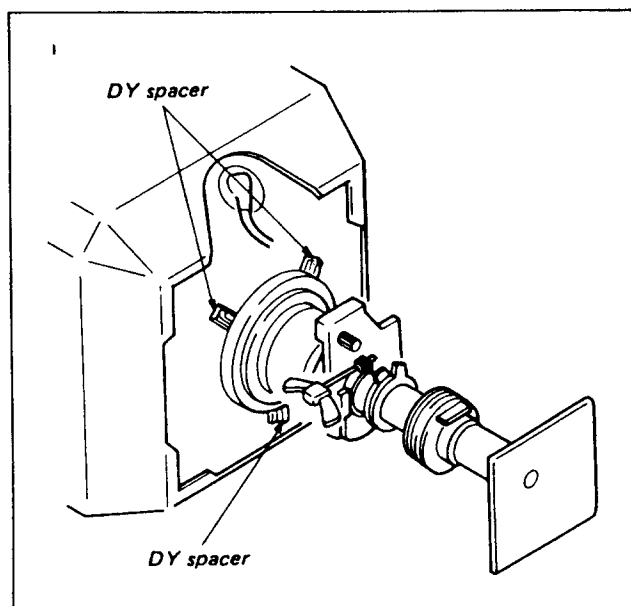

Fig. 2-4-3
- 8) Secure the DY with the spacers. (see Fig. 2-4-3)